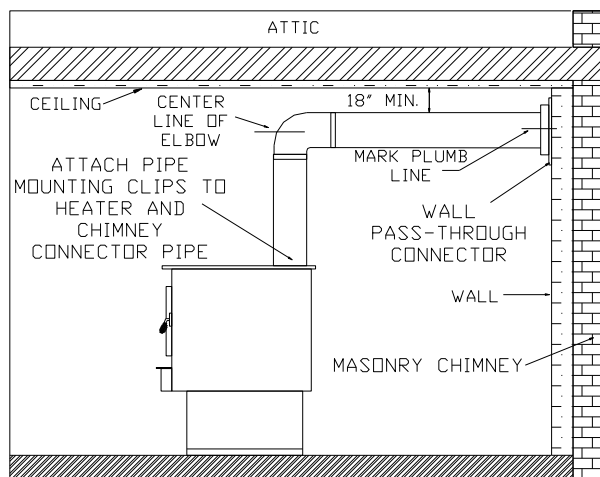

Figure 8
1. Before connecting this unit to a masonry chimney, determine that masonry fireplace wall pass through connector thimble meets **NFPA-211** Code and local building codes and is a minimum of 18" from ceiling. If connector thimble does not meet these codes, the pass through connector must be modified. (See Figure 8).